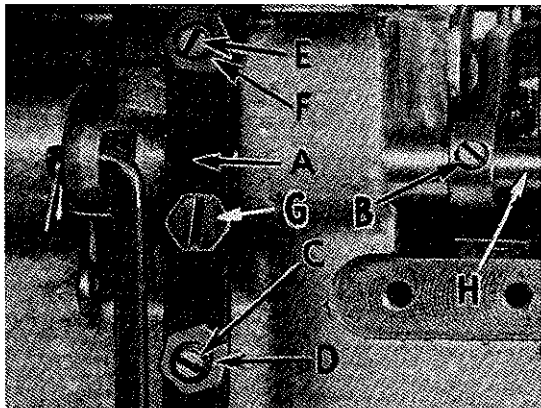

Fig. 14
Assemble the presser foot to presser arm. With needle in high position, swing presser arm into sewing position and set the presser foot to align needle holes (front and back) and flat on throat plate. The front edge of needle hole in presser foot must be aligned with front edge of needle hole in throat plate. It is also important that the bottom of the presser foot be flat on the throat plate. If necessary, presser foot can be re-aligned with throat plate slots by shifting the foot lifter lever shaft (H, Fig. 14). To move the shaft, loosen collar screws (B, Fig. 14) and clamp screw (G) and then shift the foot lifter lever shaft to the left or right as required. Re-tighten collar screws and clamp screw.